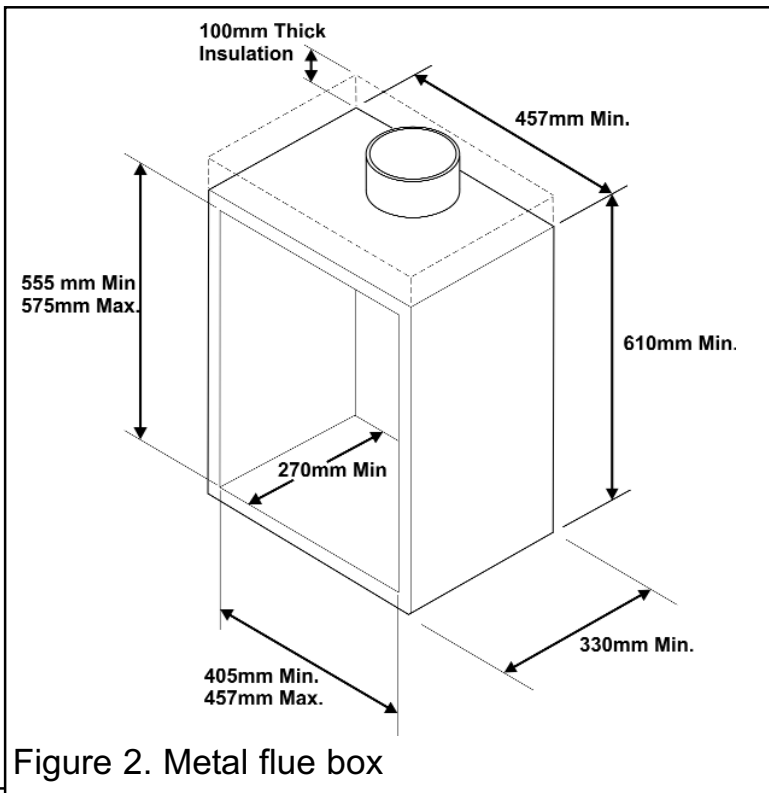

Figure 2. Metal flue box
4.2.3 To a fireplace incorporating a metal flue box complying with the constructional requirements of the current edition of BS715. The dimensions of the flue box must conform to those shown in figure 2.
The whole of the top surface of the metal flue box must be covered with a 100mm layer of mineral wool or equivalent insulation (See figure 2).